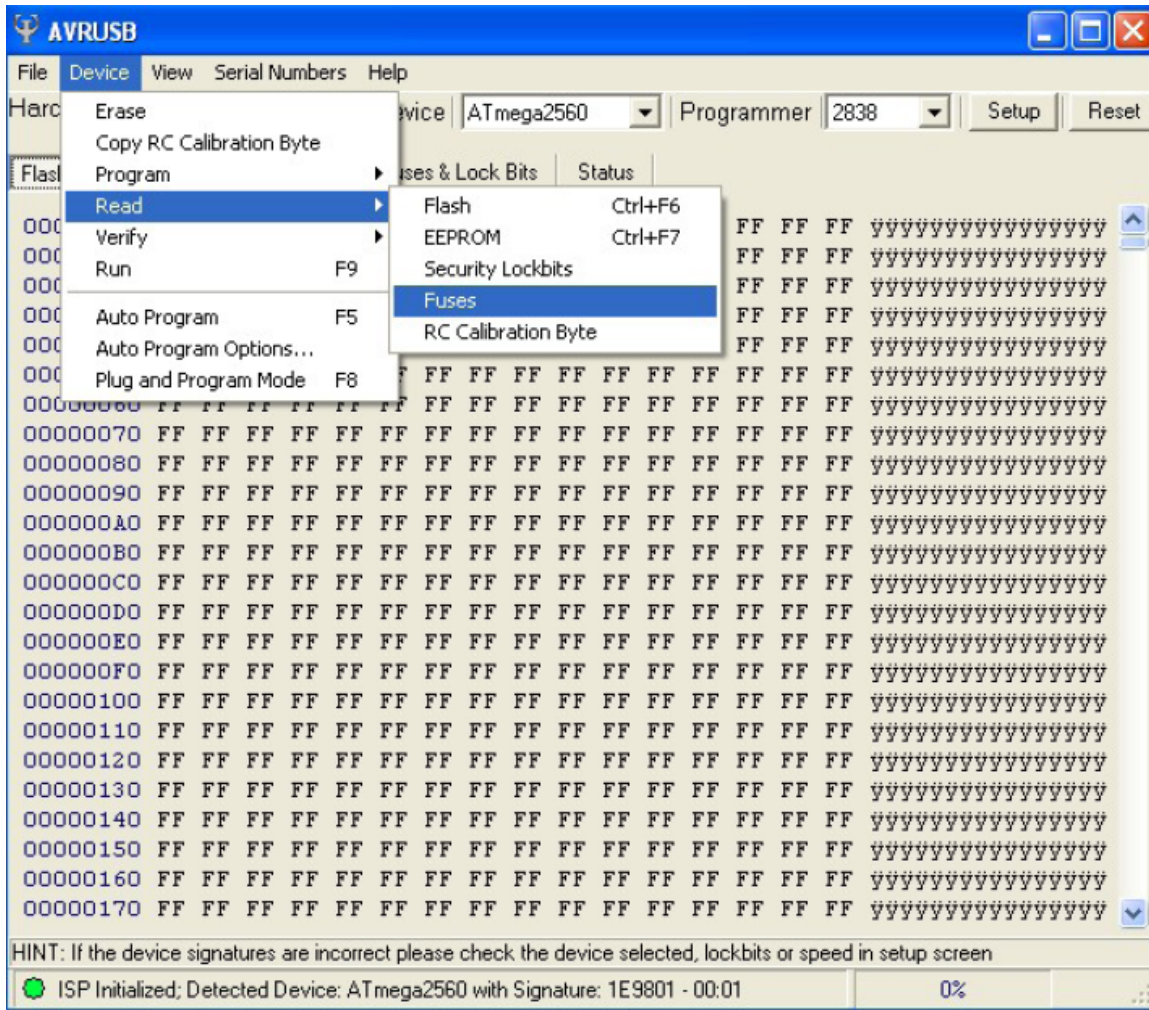

Figure 9
8. Next, read the Fuse settings from the 225D Main PC Board. From the menu list at the top of the screen select *Device*, *Read*, and then *Fuses*. See Figure 9.